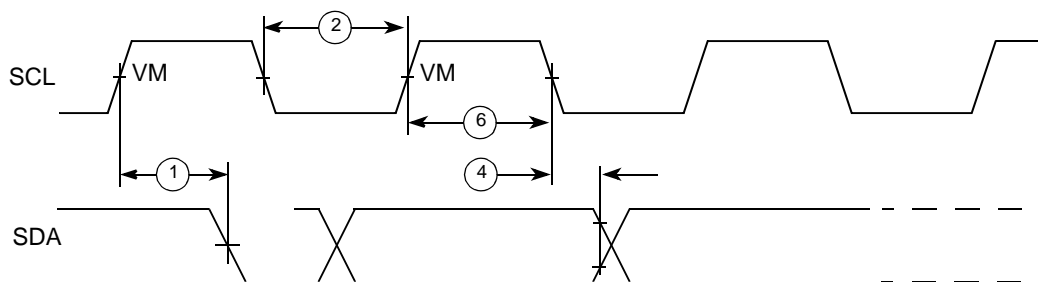

Figure 13. I²C Timing Diagram I
2. The actual values depend on the setting of the digital filter frequency sampling rate (DFFSR) bits in the frequency divider register I2CFDR. Therefore, the noted timings in this table are all relative to qualified signals. The qualified SCL and SDA are delayed signals from what is seen in real time on the I²C bus. The qualified SCL and SDA signals are delayed by the SDRAM_CLK clock times DFFSR times two plus one SDRAM_CLK clock. The resulting delay value is added to the value in the table (where this note is referenced). See Figure 13.
Figure 13 through Figure 16 show I²C timings.